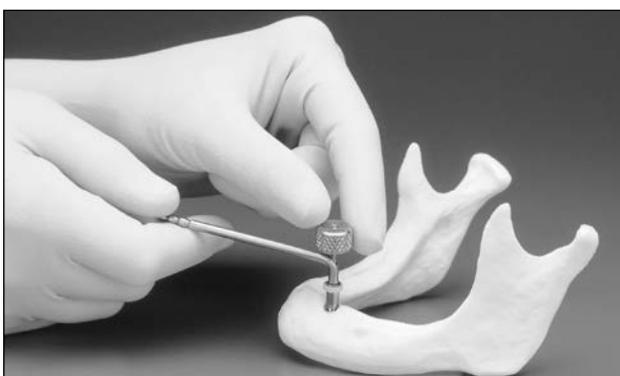

Figure 17.
D. After the implant is seated at the desired level, unscrew the implant driver mount by disengaging the retaining screw with the 1.25 mmD (0.050") Hex Tool. The driver mount Counter torque Tool may be used to prevent rotation of the implant during driver mount removal (**Fig. 17**). The external hex of the Counter torque Tool engages the hex socket of the driver mount. A hole in the end of the Counter torque Tool allows the long Hex Drive Seating Tool to be passed through the Counter torque Tool and engage the retaining screw. While holding the Counter torque Tool in a fixed position, disengage the retaining screw by turning the Hex Drive Seating Tool in a counterclockwise direction. Remove the driver mount from the implant body. Both the driver mount and the retaining screw are disposable products.